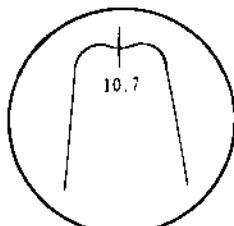

Figure 15
- b) Set the frequency of the sweep generator to 10.7 MHz and apply its output. Adjust T101 until the scope pattern illustrated in Fig. 15 is available.